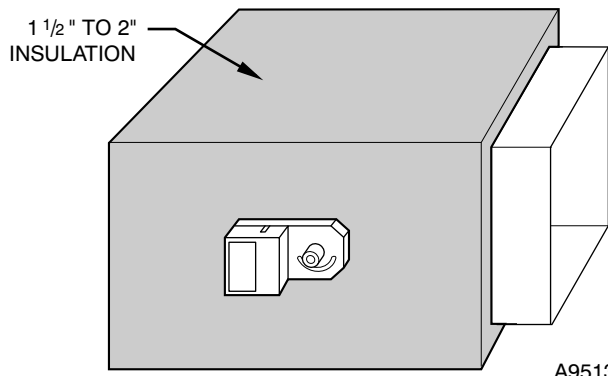

Fig. 4 – Insulated Rectangular Metal Ductwork
3. If dampers are applied in an unconditioned space, insulate them using 1- 1/2 inch to 2 inch insulation (See Fig. 4).